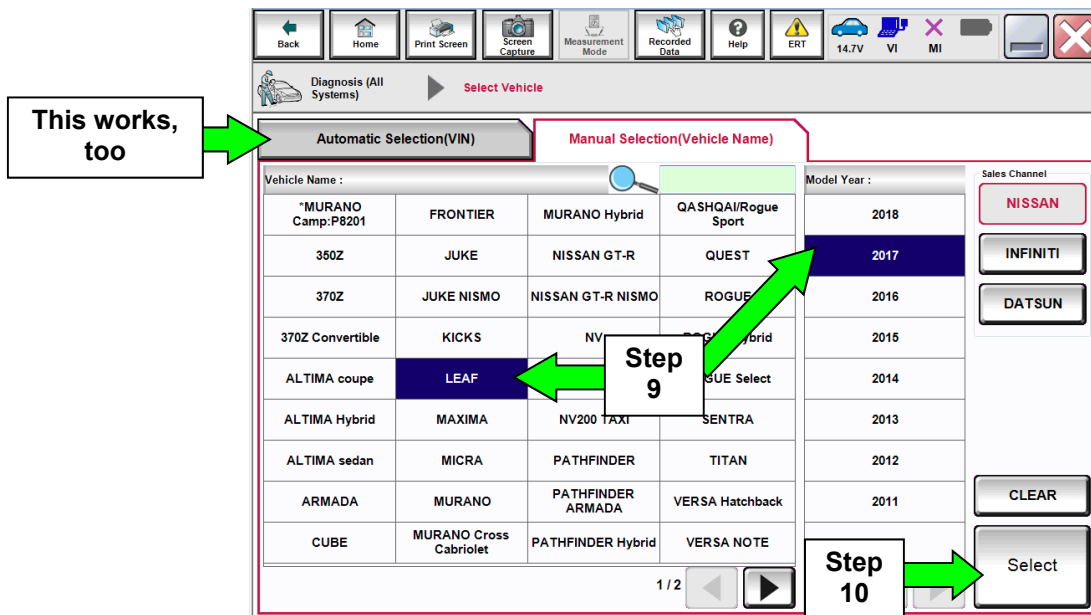

Figure 3
- If the screen in Figure 3 does not display, skip to step 11.